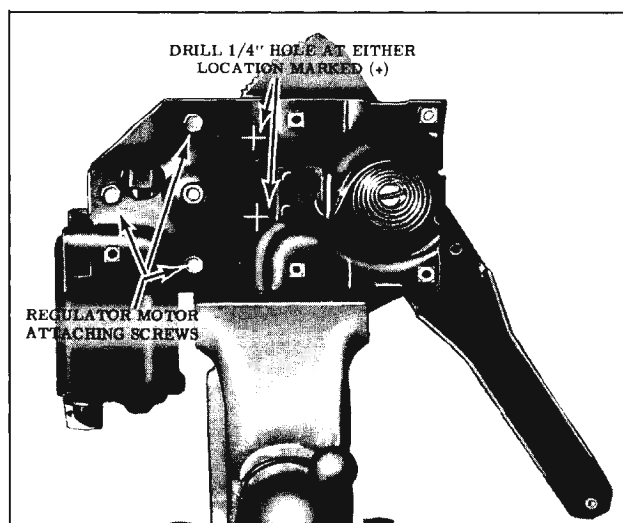
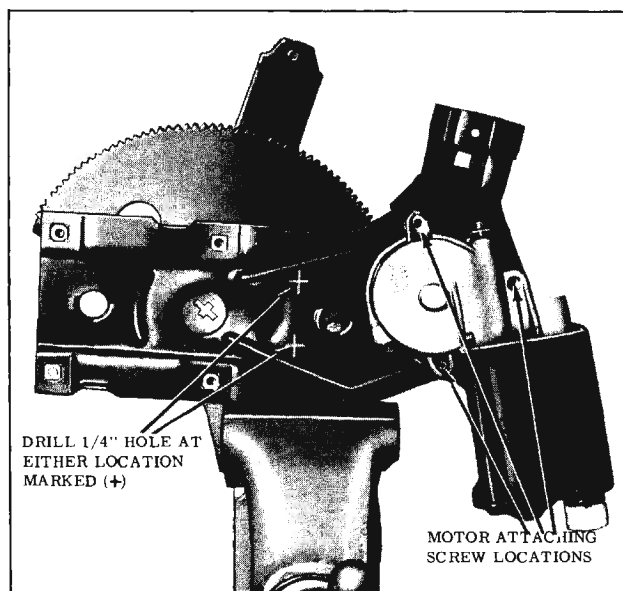

Fig. 16-267 Electric Window Regulator (17 & 47 Styles)
Fig. 16-268 Electric Window Regulator (67 Style)
2. Place regulator in a vise as shown in Fig. 16-267 for "17" and "47" styles, Fig. 16-268 for "67" styles.
3. Drill a 1/4 inch hole through regulator backplate and sector in approximately one of the locations indicated by crosses. (Fig. 16-267 for "17" and "47" styles; Fig. 16-268 for "67" styles).